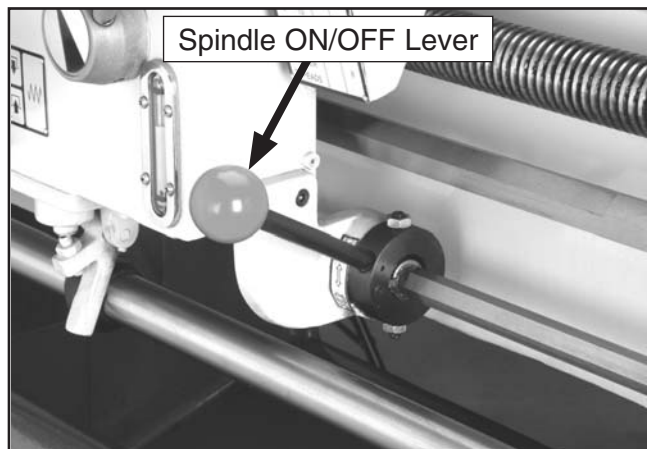

Figure 11. Spindle ON OFF Lever.
3. Move the spindle ON/OFF lever (**Figure 11**) downward to start the lathe.